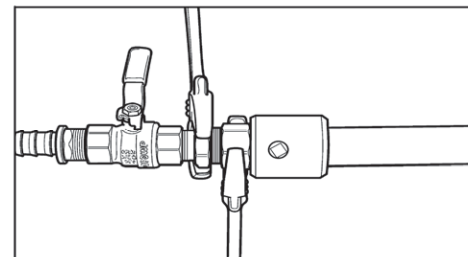

Figure: 4-55
- Thread nut onto adapter previously installed on the equipment. Using appropriate wrenches, hold adapter and tighten nut to proper torque specified. Figure: 4-55. **Do not over tighten or use any pipe dope or thread sealants on this connection. This is a metal-to-metal seat and will not seal if pipe dope or thread sealants are used. Sealants are to be used on the NPT connection to the equipment only!**